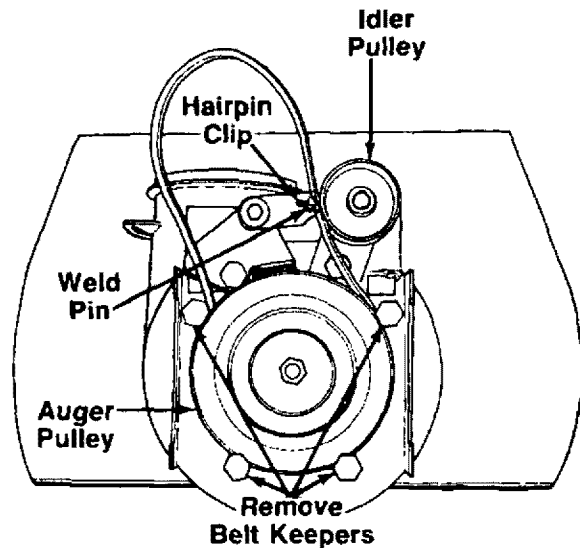

**FIGURE 24.**
- b. Using a 9/16" wrench, remove the top bolts which attach the auger housing to the frame assembly. Loosen (do not remove) the bottom bolts. See figure 24.